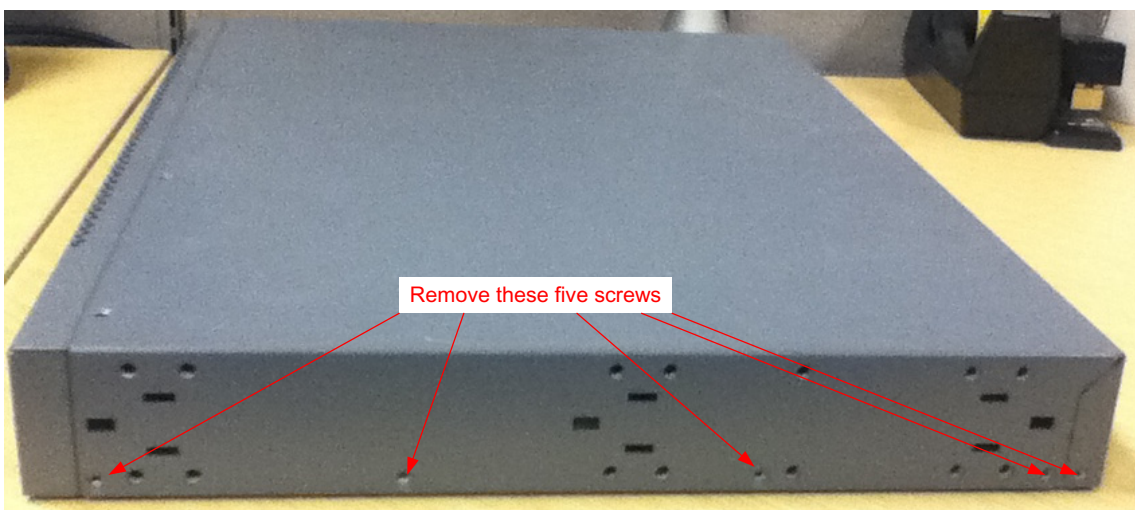

Figure 3-2: EX3300 Left side screws
| Figure 3-2: EX3300 Left side screws | 3 |
2. Remove five screws from left side of chassis (Figure 3-2)